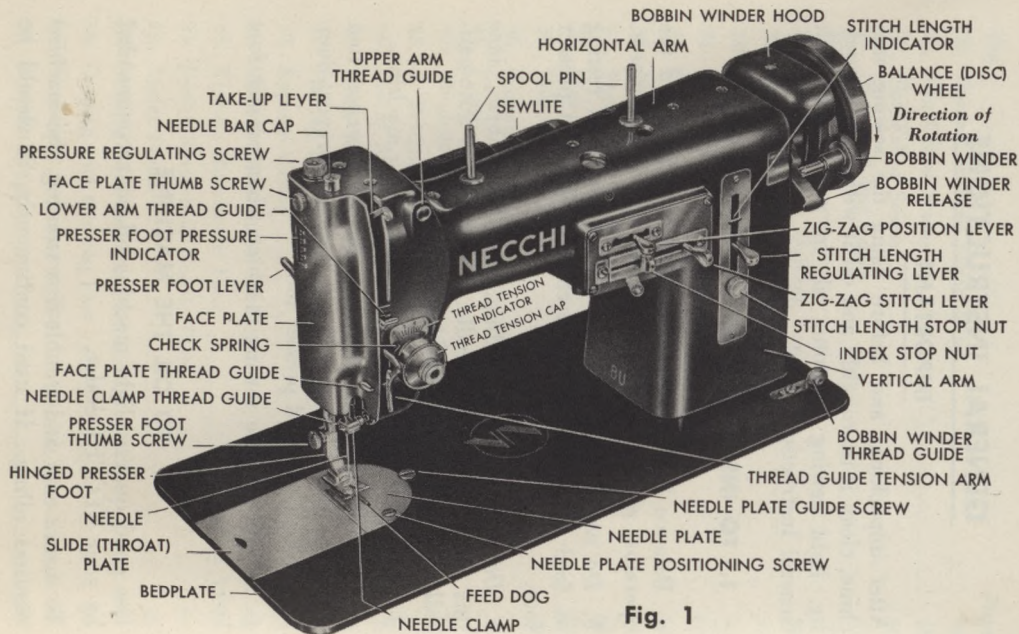

Fig. 1
b. Remove face plate thumb screw (Fig. 1), near upper portion of face plate, remove face plate, and put one drop of oil into each of the oil holes and joints. Replace face plate and tighten thumb screw.
a. Bring needle to its highest position by turning balance wheel toward you (Fig. 1).
a. Raise presser foot by raising presser foot lever (Fig. 1, page 14).
b. Move slide plate (Fig. 1, page 14) to extreme left.
(See Fig. 1, page 14 for reference.)
- a. Bring needle up to its highest position by turning balance wheel toward you (Fig. 1).
- a. Turn balance wheel (Fig. 1) toward you until take-up lever reaches its highest position.